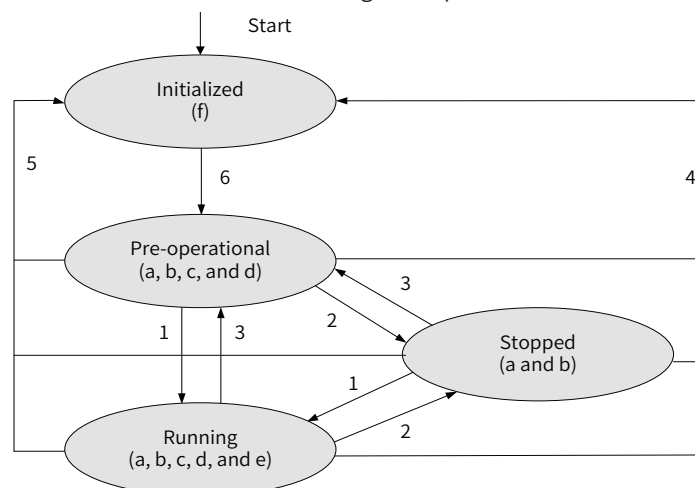

Figure 3-66 State transition of a slave during startup
Figure 3-66 shows the state transition of a slave during startup.
- **Start Node:** Click this button to run slave nodes. PDO communication can be implemented only when slave nodes are running. When the slave is in the preoperational or stopped state, **Start Node** sets the slave to the running state (state 1 in Figure 3-66).
- **Stop Node:** Click this button to stop slave nodes from running, and all communication except node daemon and heartbeat stops. When the slave is in the preoperational or running state, **Stop Node** sets the slave to the stopped state (state 2 in Figure 3-66).
- **Enter Preoperational State:** Click this button to enable the slave to enter the preoperational state, in which the slave can initiate SDO communication, but not PDO communication. The slave enters the preoperational state after initialization. When the slave is in the running or stopped state, **Enter Preoperational State** sets the slave to the preoperational state (state 3 in Figure 3-66).
- **Reset Node:** Click this button to reset the configuration of the slave. The application configuration and communication configuration are reset in sequence. The slave enters the preoperational state (state 4 in Figure 3-66).
- **Reset Communication:** Click this button to reset the communication configuration of the slave. Only the communication configuration is reset. The slave enters the preoperational state (state 5 in Figure 3-66).